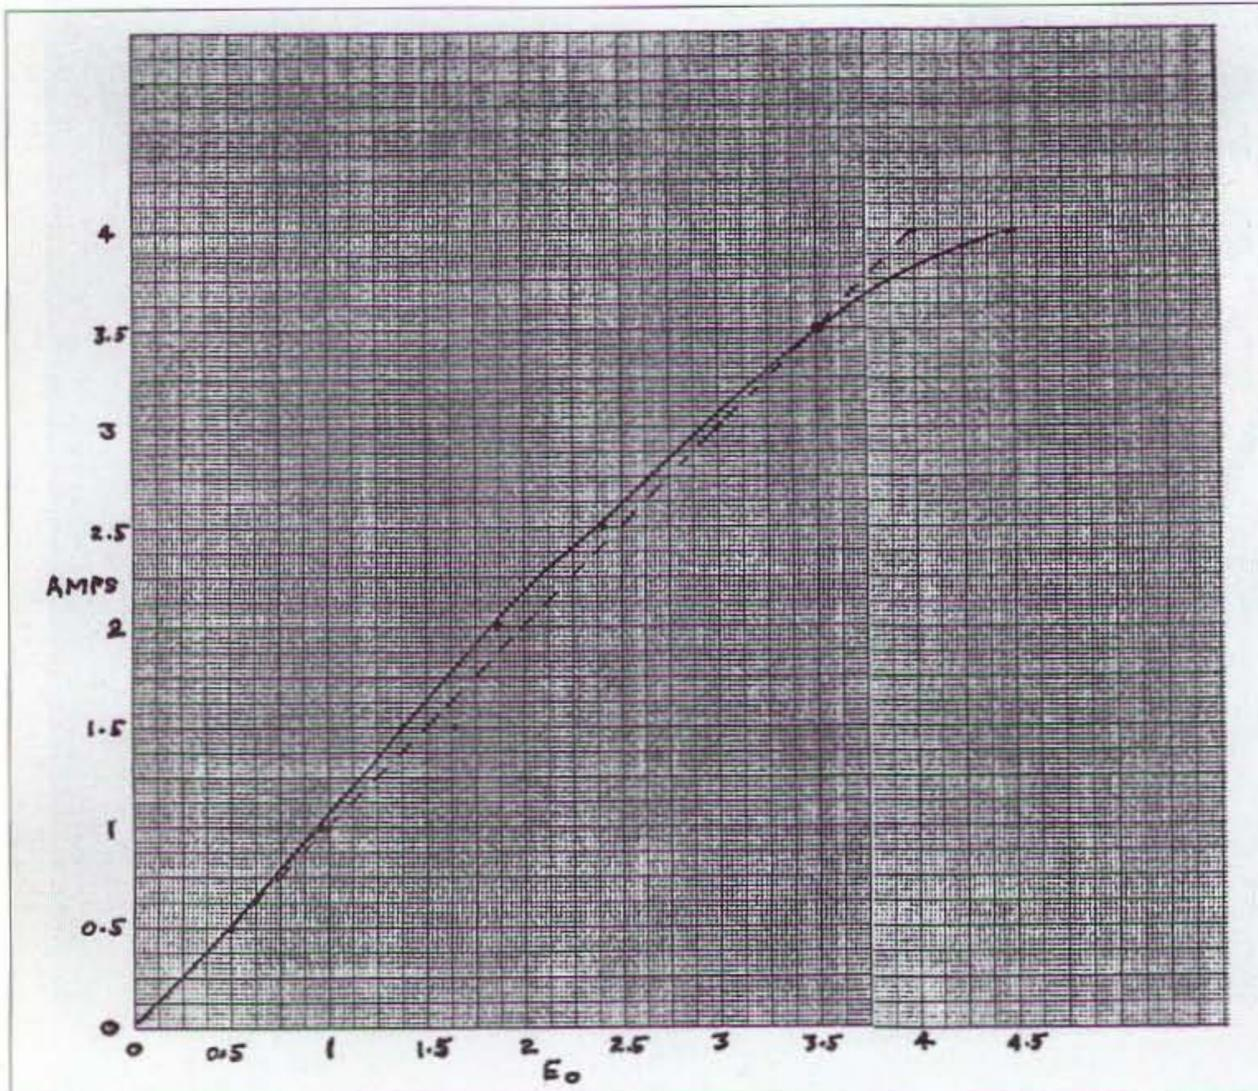

Fig. 5. X1 calibration response curve for measured current from 0–4 amps. The X1 gain was adjusted/calibrated at the 3.5 A value.
**Figs. 5** and **6** show the calibration response curves that I obtained using core #2. Please note that the X1 calibration curve, although nearly tracking the absolute current "dotted" line, does swerve some, indicating an error in reporting the exact current that is being measured. Of most concern is the response deviation from the norm at current values below 3.5 A, assuming 3.5 A to be the upper measurement value. X1
calibration for Fig. 5 was done at exactly 3.5 A to achieve the tracking curve shown. If greater measurement accuracy is desired for current values below 3.5 A, then the X1 amplifier gain may be adjusted with a known current between 2 A and 2.5 A. Such an adjustment would provide a reasonably accurate indication up to the calibration current value. Above the calibration value, the accuracy will decrease with increased current values as indicated by the shape of the response curve. Although I didn't sort out the reason for the response curvature, I suspect that it is related to the LM741's response, since the Hall-Effect sensor is linear from rail to rail, and neither rail was reached during the test.